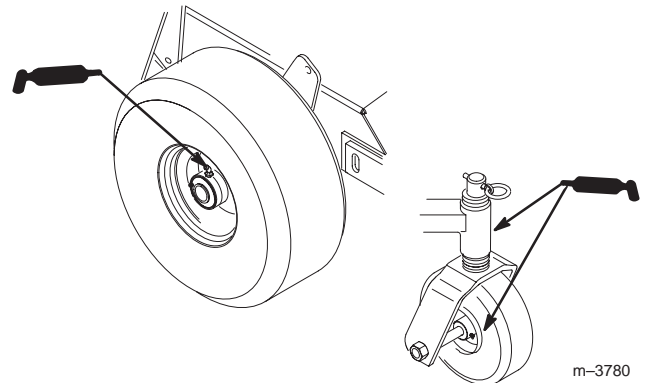

Figure 34
1. Lubricate the drive and caster wheel bearings and front spindles (Fig. 34) after every 8 operating hours.